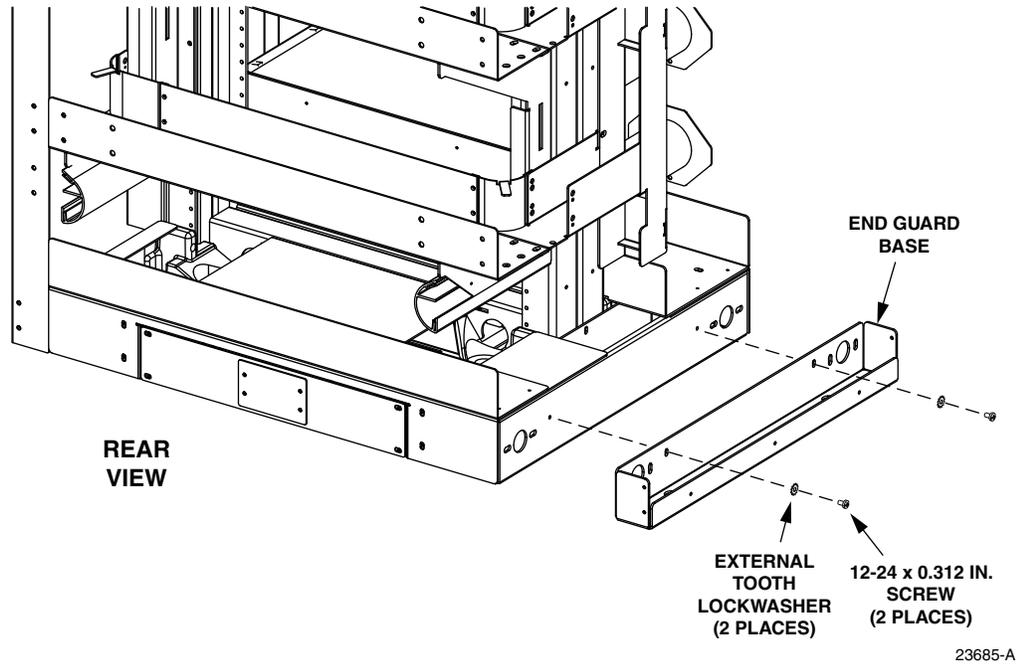

Figure 3. Assembling End Guard Base to Base of Frame
1. Assemble the end guard base on the base of the frame, using two 12-24 x 0.312 inch screws and two external tooth lockwashers, as shown in the rear view in Figure 3.